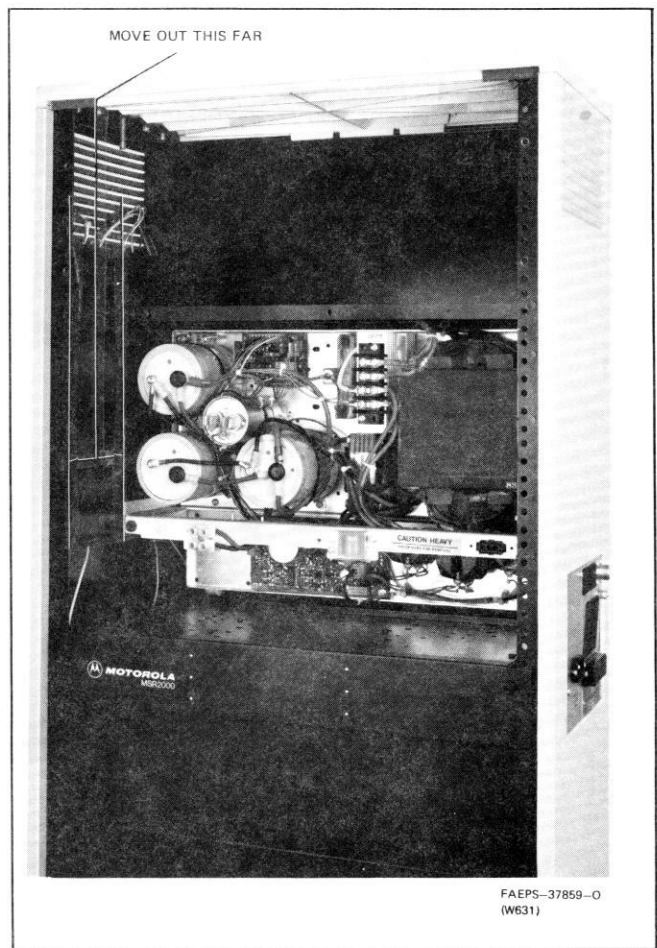

Figure 3. Power Supply Chassis Travel Distance
Step 3. Slide power supply chassis toward you until chassis is flush with cabinet as shown in Figure 3.